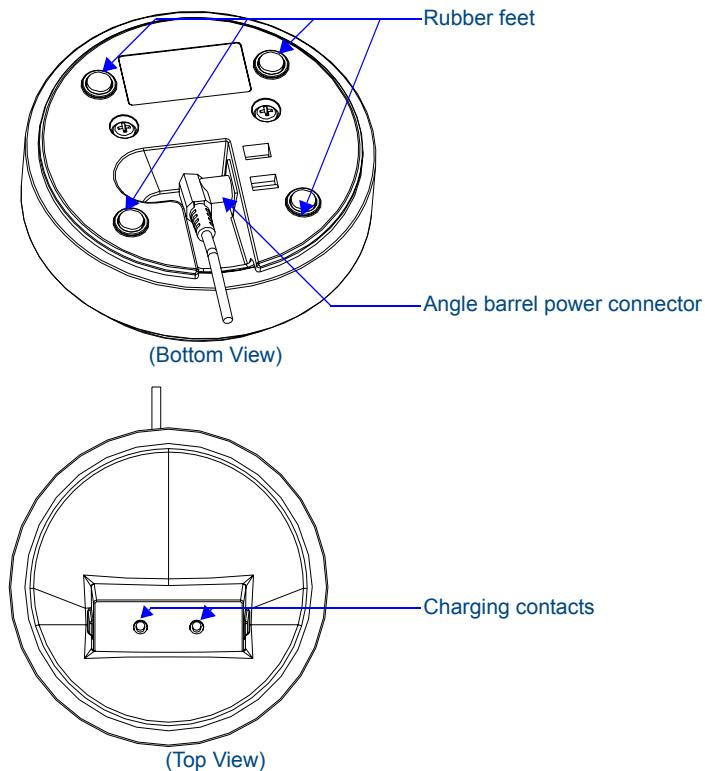

FIG. 6 MIO Remote Charging Base (Top and Bottom view)
1. Connect the terminal end of the power supply to the bottom external power port on the MIO remote charging base. See FIG. 6 for location.